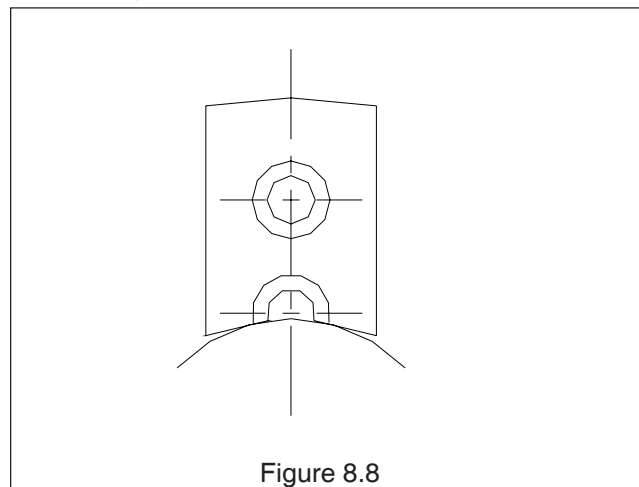

Figure 8.8
11. In situations where the top jaws' counterbored mounting bolt holes interfere with the clamping diameter, it is very important that the top jaw's clamping diameter is machined to the exact diameter of the workpiece diameter. Otherwise, two-line contact occurs during clamping as shown in Figure 8.8, which will result in a loss of chuck accuracy.